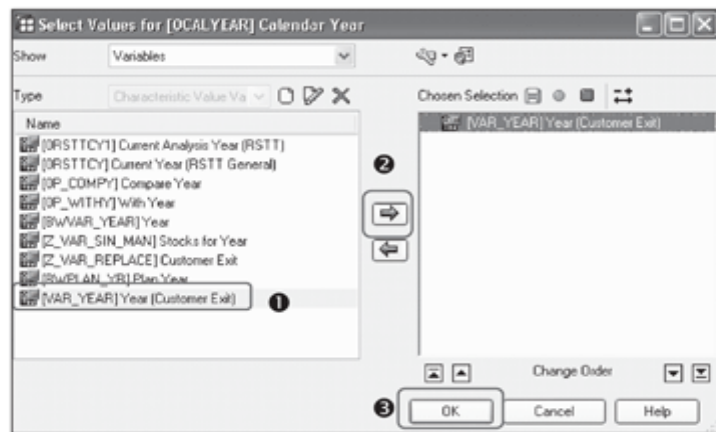

Figure 9.40 Restrict with Variable
Using the example mentioned earlier, select the customer exit variable for calendar year as shown in ❶ of Figure 9.40.